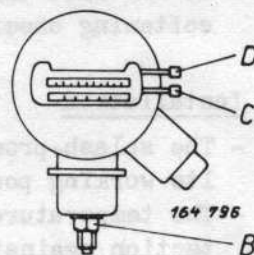

Fig. 3
- The position of the bellows in relation to the body must remain unaltered, since any change would affect the adjustment of the apparatus. Therefore, when connecting the pressure input pipe, be careful to grip the hexagon (B, Fig. 3) only.